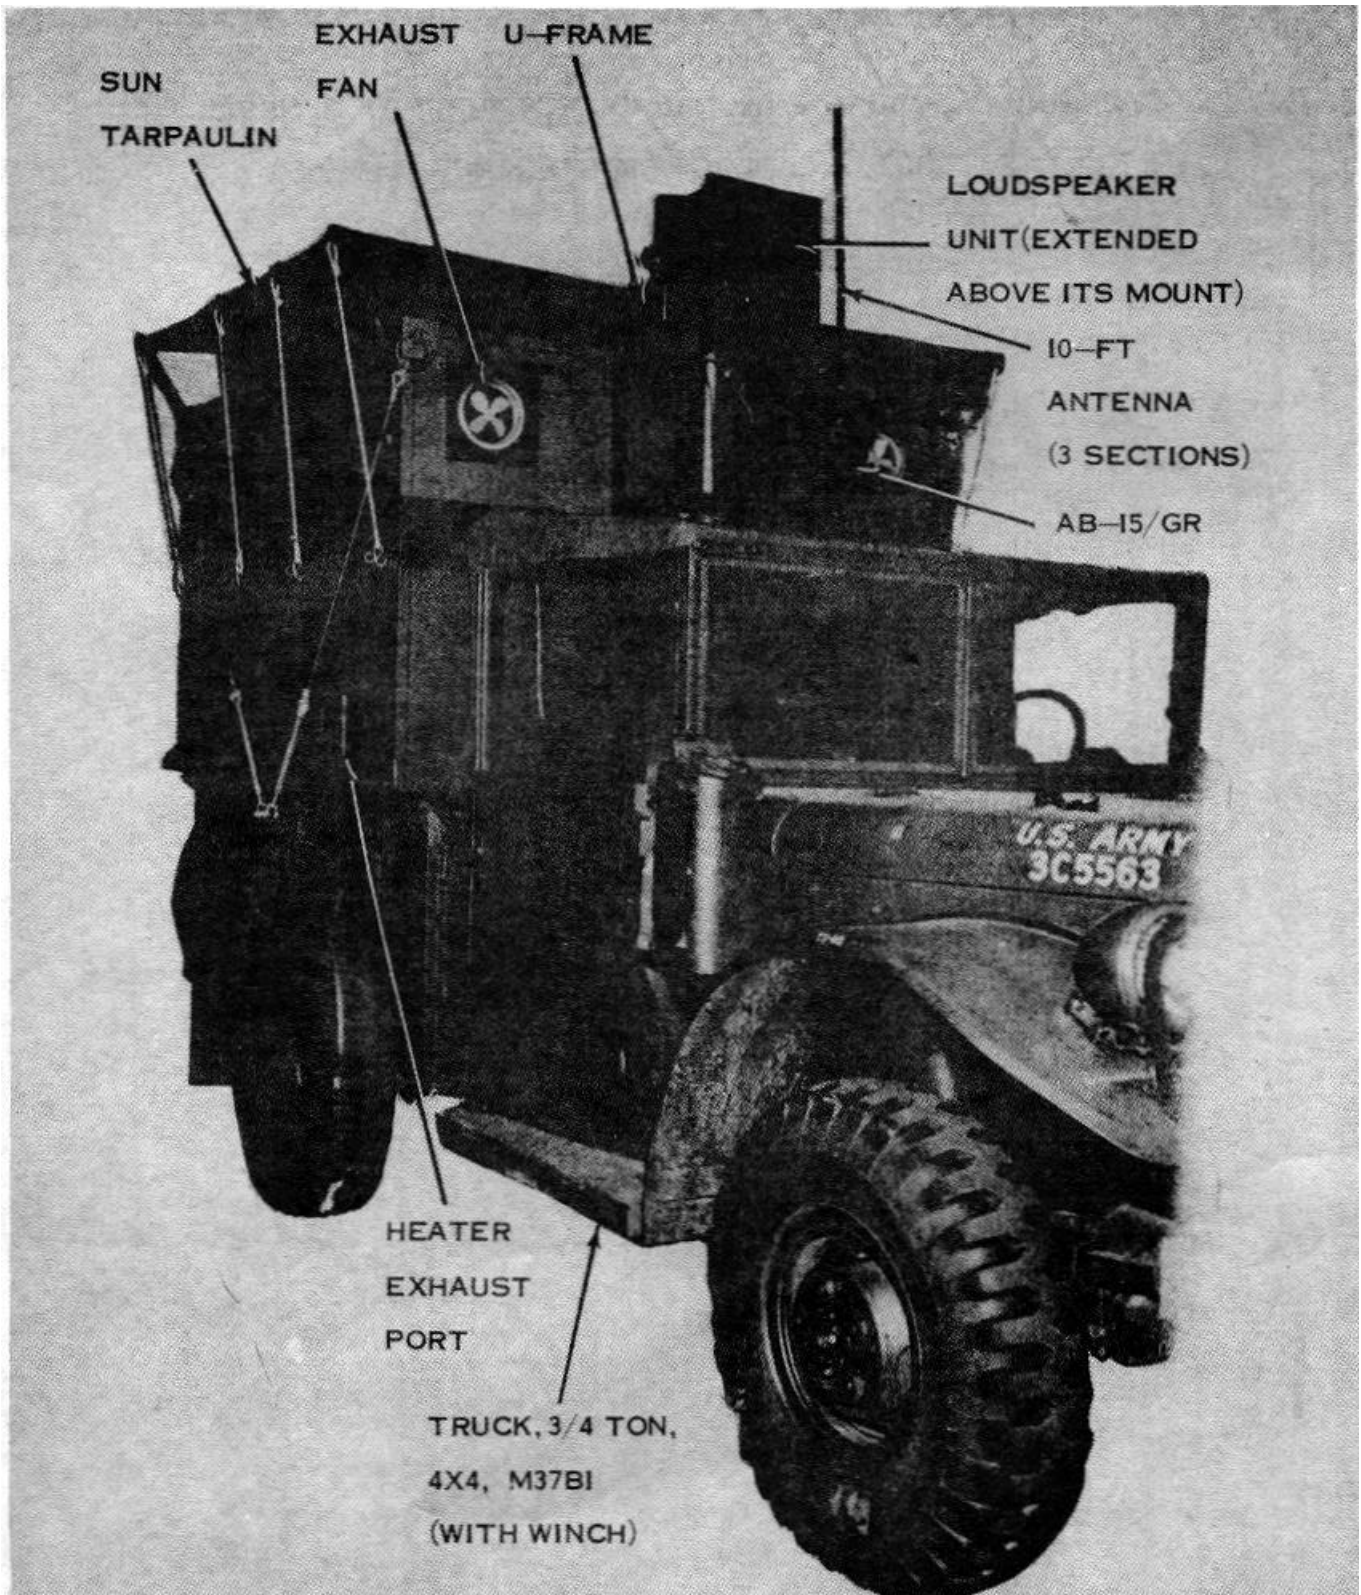

Figure 1-1. Mobile Audio Visual Unit ANIMSQ-8.
a. *Purpose.* Mobile Audio Visual Unit AN/ MSQ-85 (fig. 1-1) is an assembly of audio and visual aid equipments mounted on, or stored in, Shelter, Electrical Equipment S318/G (Modified). The shelter is placed on the cargo bed of a 3/4-ton, 4x4, M37B-1 cargo truck that is provided with a winch.
(1) The AN/MSQ-85 is used to provide audio, visual, or audio-visual programming and entertainment to friendly personnel in remote areas. The truck is provided to make the entire audio-visual unit extremely mobile. The programming and entertainment may be presented to allied or other friendly personnel, or possibly for troop information and entertainment, in non-urban areas. Where commercial power for operating the audio-visual equipments is unavailable, a portable power unit is used for supplying the power needs of the equipment.
(2) The AN/MSQ-85 is also used in tactical situations; for example, it may be used in military police operations for control of civilian populations, or for directing military personnel in the performance of their duties through the public address (PA) set. Other applications of the AN/ MSQ-85 are left to the direction of the commanding officer charged with responsibility for the mission of the AN/MSQ-5.
(3) The main audio components consist of a PA set, a broadcast-band radio, and a tape recorder. Either the tape recorder or the PA set may use the external loudspeaker unit on the front of the shelter; however, live broadcasting from the radio to the external loudspeaker unit cannot be accomplished. Radio programs must first be recorded on tape where they may be monitored before public playback, permitting screening of the radio program to assure quality and accurate programming. Operation of the audio components is described in paragraph 3-12.
(4) The visual display equipment consists of a movie projector, a slide projector, a Polaroid camera, a small screen, and a large screen. The equipment is designed to be operated out of doors, although the slide projector may be operated from within the shelter if desired. Additional lenses for use with the movie projector include an anamorphic (cinemascope) lens and a zoom lens; a lens adaptor is also included. A zoom lens for enlarging images is also available for the slide projector. Operation of the visual components is described in paragraphs 3-10 and 3-11.
(5) A portable gasoline engine generator (power unit) is provided for supplying 115 volts
Ling-wire Antenna and ground terminals provided at rear of receiver for connecting external antenna (not supplied) and ground, to assure maximum signal pick-up in very weak signal areas. Mast Base AB-15/GR with whip antenna sections (fig. 1-1) as used for this purpose in the audio-visual unit.